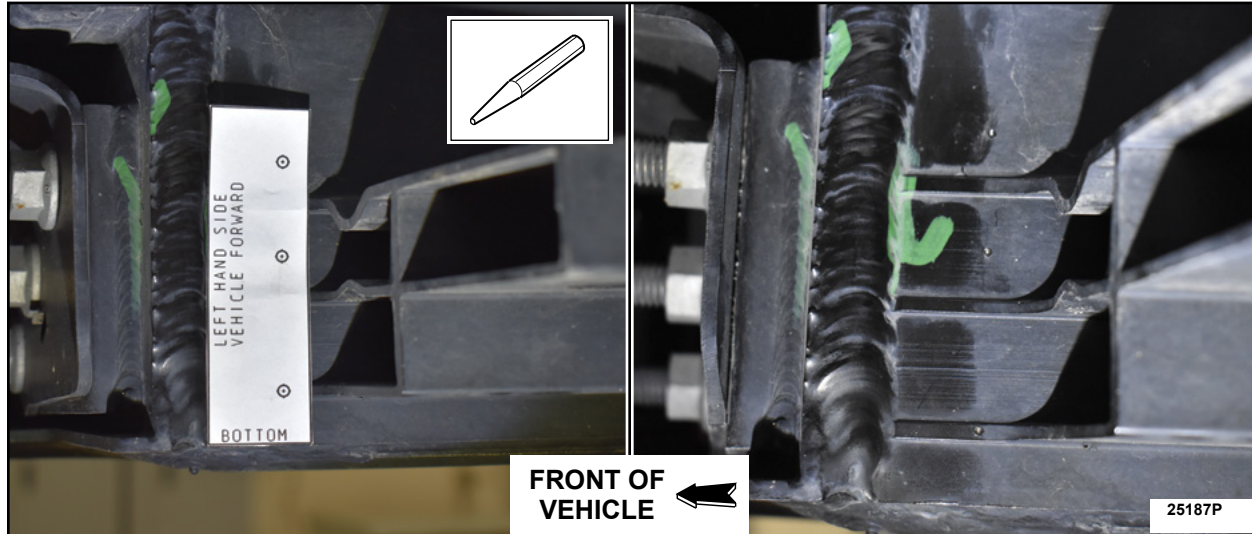

FIGURE 17
5. Using a center punch, mark the center of the holes, then remove the template. See Figure 17.